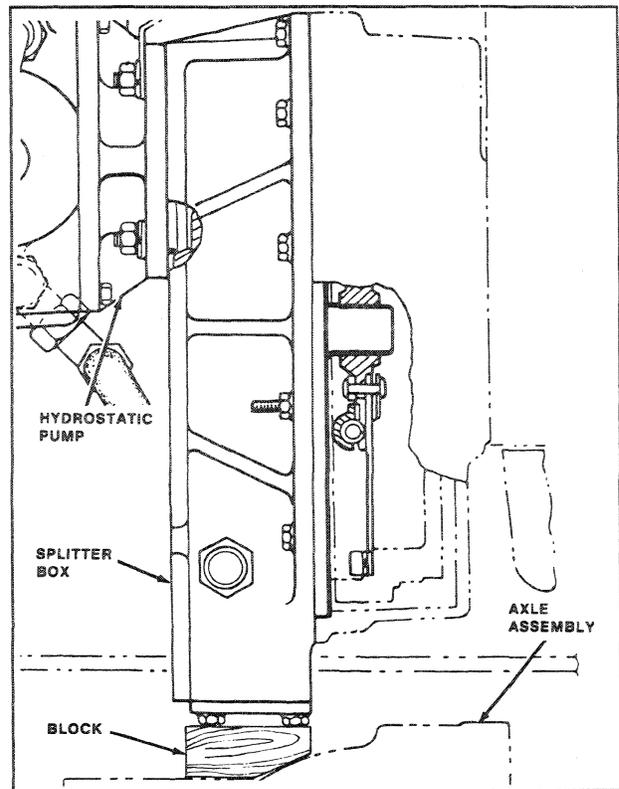

FIGURE 2-12: Supporting the Splitter Box
15. Attach lifting fixture to the splitter box assembly. Support splitter box assembly underneath with blocks so splitter box weight will rest on the axle frame when mounting capscrews are removed from the engine flywheel housing (Figure 2-12).